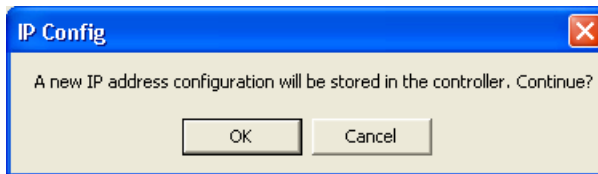

Figure 61. IP Config confirmation dialog window
5. Type Primary Ethernet Interface Subnetmask (255.255.252.0) and click **Set IP**. The new address is sent to the PLC and an IP Config window opens, see Figure 61.